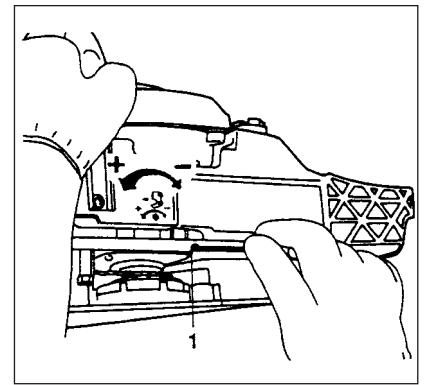

Fig. 2-1C
The chain oil quantity discharged through the lubrication system is factory adjusted to the maximum. Adjust the quantity in accordance with the operating condition. Turn the adjusting screw (1) counterclockwise to decrease the quantity and turn it clockwise to increase the quantity. (Fig.2-1C) Do not try to turn the screw beyond level marks.